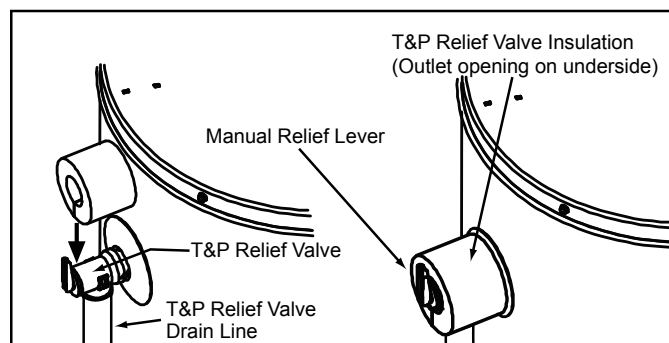

Figure 14.
Locate the temperature and pressure relief valve on the water heater (also known as a T&P relief valve). See Figure 14.
2. Spread the slit open and fit the insulation over the T&P relief valve. See Figure 14. Apply gentle pressure to the insulation to ensure it is fully seated on the T&P Relief Valve. Once seated, secure the insulation with duct tape, electrical tape, or equivalent. **Important:** The insulation and tape must not block the discharge opening or hinder access to the manual relief lever (Figure 14). Ensure a discharge pipe is installed into the T&P valve discharge opening per the instructions in this manual.